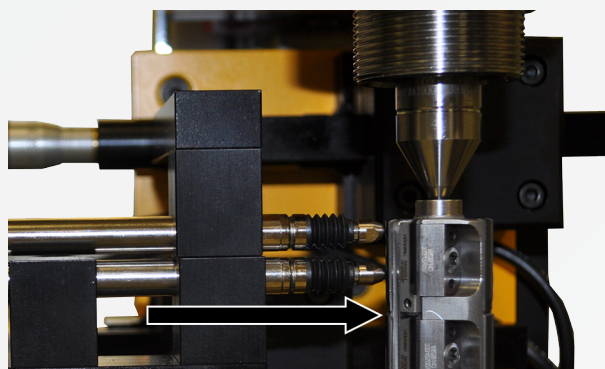

Fig. 25: Move measuring probes towards reference line
4. Move both measuring probes towards the reference line. The reference line is the first guiding rail behind the cutting edge in rotational direction (see arrowhead, fig. 25). Apply the measuring probespecific pre-stressing to the reference line then zero set both measuring probes.